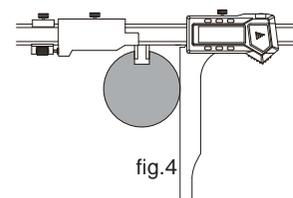

fig.4
---Move the caliper jaw to make contact with the workpiece to be measured (fig 4), and record the displayed value 'a' at this time.